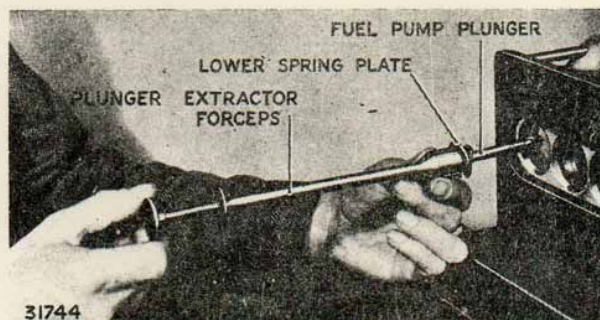

FIG. 33. REMOVING OR REPLACING PLUNGER.
8. Fit lower spring plates on to the plungers and insert the plungers into the barrels through the base plug holes, using C.A.V. Tool No. ET.569 (Fig.33).